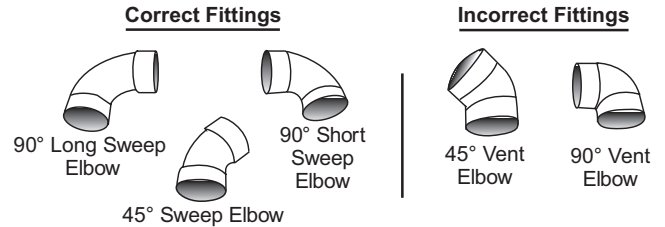

Figure 11. Correct and Incorrect Pipe Fittings
IMPORTANT: Do not use vent elbows in this vent pipe installation. See Figure 11.
*Refer to Figure 11 for Inlet/Outlet Location Dimensions
3. See Figure 11 from "Vent Pipe Termination" on page 23 to properly locate the inlet and exhaust terminals.